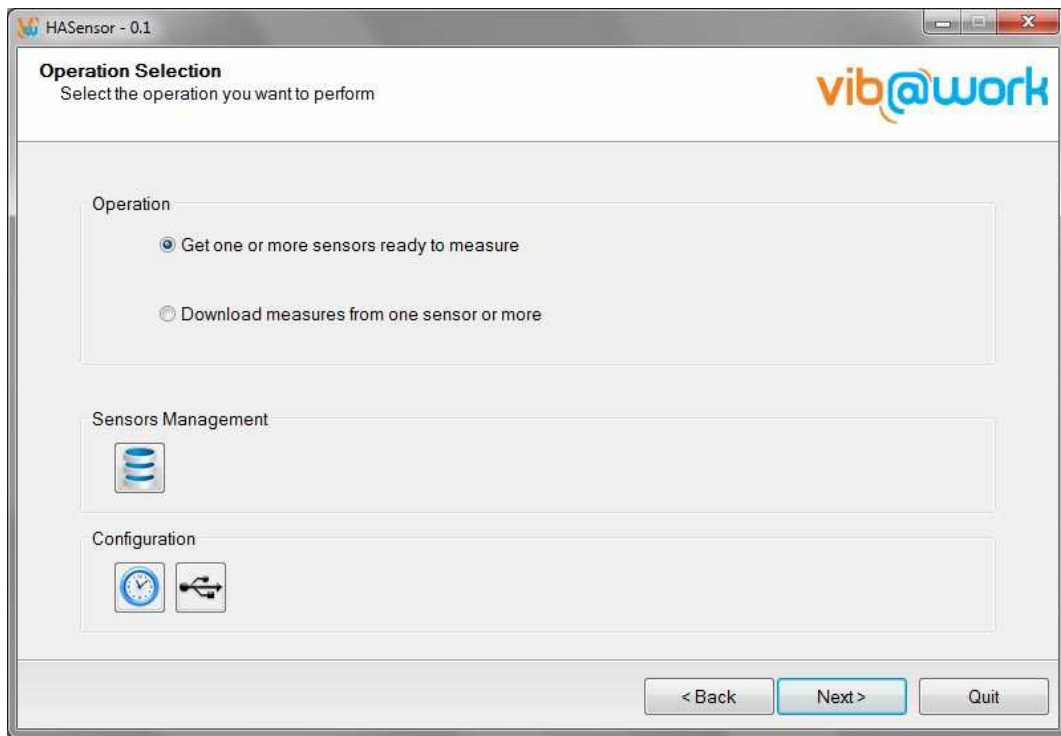

Figure 8: Preparing the sensors for measurement
- Launch the "HASensor" software and go to the welcome screen by clicking on the "Next >" button. The screen for selecting the operation to be performed is displayed (Figure 8).